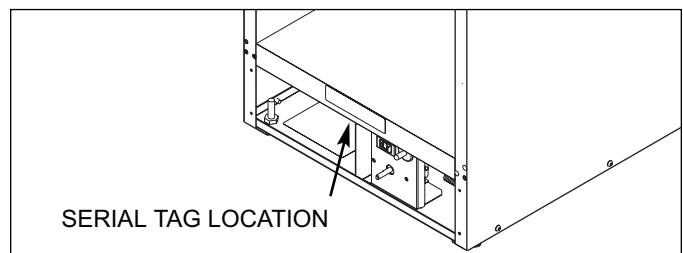

Figure 1-1. Serial Tag Location
- The serial number tag for model 315W is located on the compartment divider, directly behind the kickplate. (See Figures 1-1 and 1-2)